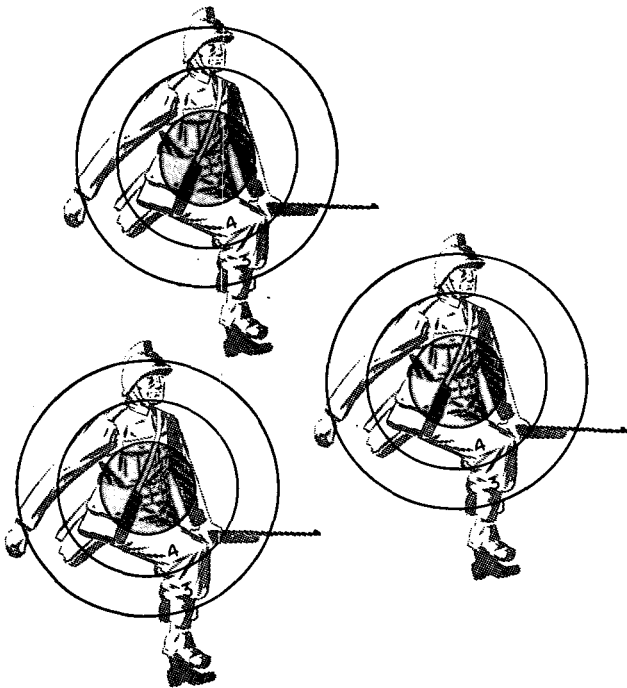

Figure 1. Bull's-eye—Enemy.
a. The rifle is the basic weapon of the United States Army. Although you use it to shoot at a bull's eye (fig. 1) today, your target tomorrow may be the enemy. For that reason there is no part of shooting that is *about right*. In combat, you either HIT or you MISS, and your own life as well as the lives of other men of your unit may depend on your skill as a rifleman.